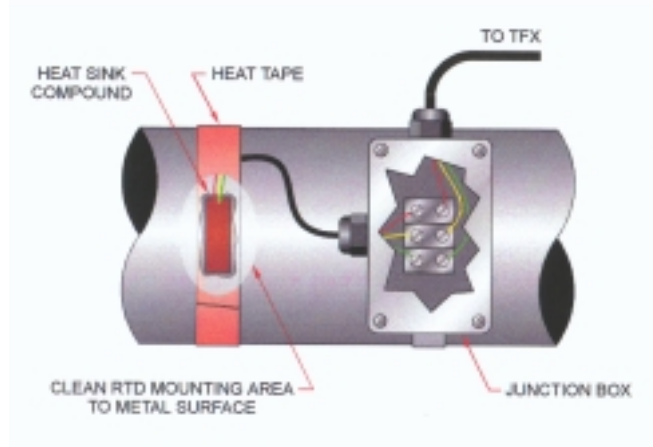

Figure 1
- Place a small amount of heat sink compound on the pipe in the RTD installation location. See Figure 1. Press the RTD firmly into the compound. Fasten the RTD to the pipe with the included heater tape.